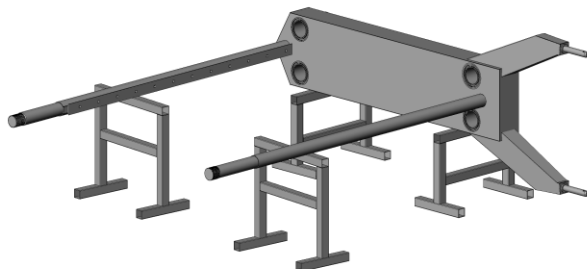

Figure 6-3
3. Slide the top and bottom rails into the fixed end (see figure 6-3). Note: The top rail has a long and a short end. The short end will go through the fixed end while the long end is intended to go through the end support.